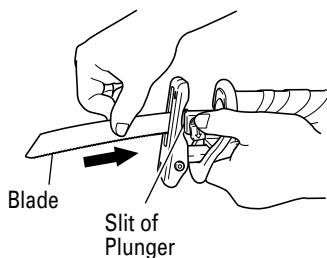
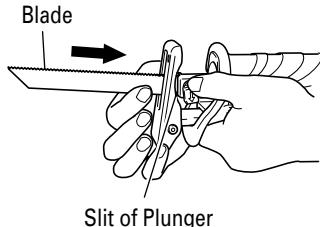

Fig. 4
Fig. 5
(3) Insert the saw blade all the way into the small slit of the plunger tip with the lever pushing. You can mount this blade either in the upward or downward direction. (Fig. 4, Fig. 5)